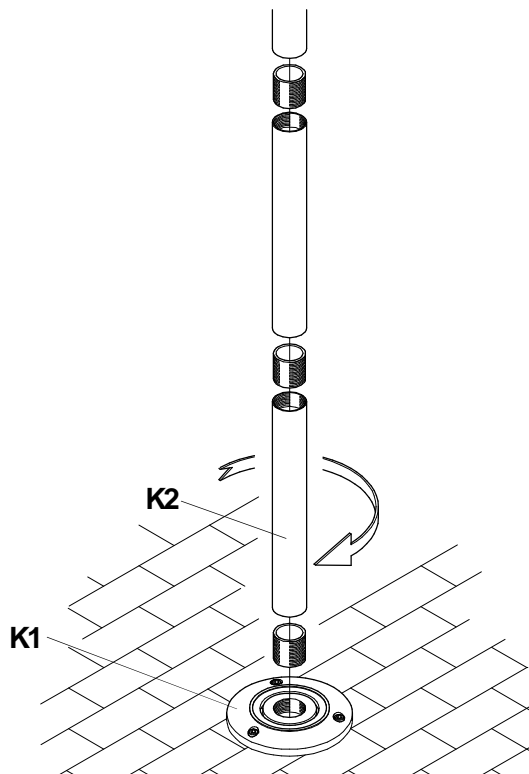

Fig. 5
- Compose the post as shown in fig. 5. Start tightening the first **K2 (A-B-C)** pile component with the K1 flange. Avoid damaging the thread during the operation. Mount the **K2 (A-B-C)** segment that will compose the post.